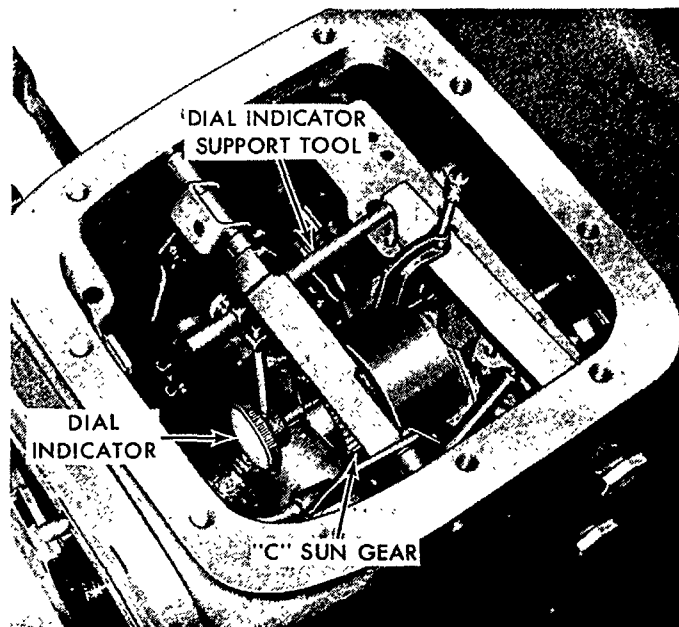

Figure 44
1. Mount the dial indicator on the transmission case as shown in Figure 44.
3. Set the dial indicator on zero while maintaining a slight pressure on the ring gear. See Figure 44.